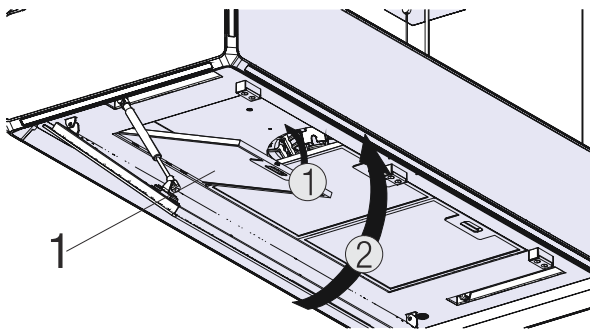

Fig. 35: Placing the metal oil filters
- 11.** ➤ Place the metal oil filter in the product and open the filter lock (Fig. 35/1)
- 12.** ➤ Install the metal oil filter (Fig. 35/2)
- 13.** ➤ Close the side aspirator (Fig. 35/3).